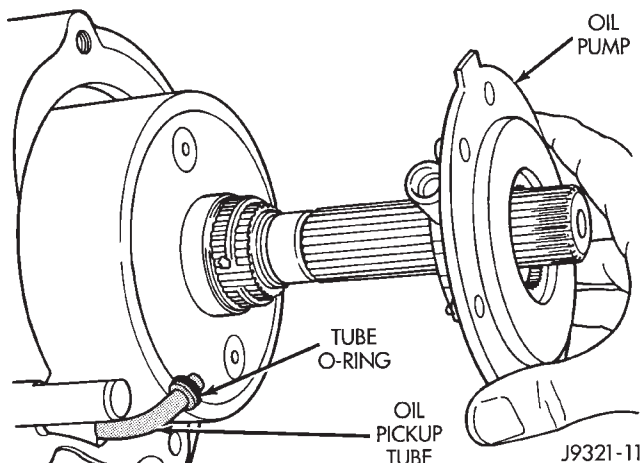

Fig. 31 Rear Bearing and Oil Pump Removal
(9) Remove rear bearing snap ring (Fig. 31).
(10) Remove rear bearing (Fig. 31). Note position of bearing locating ring groove for assembly reference.
(11) Disengage oil pickup tube from oil pump and remove oil pump assembly (Fig. 31).